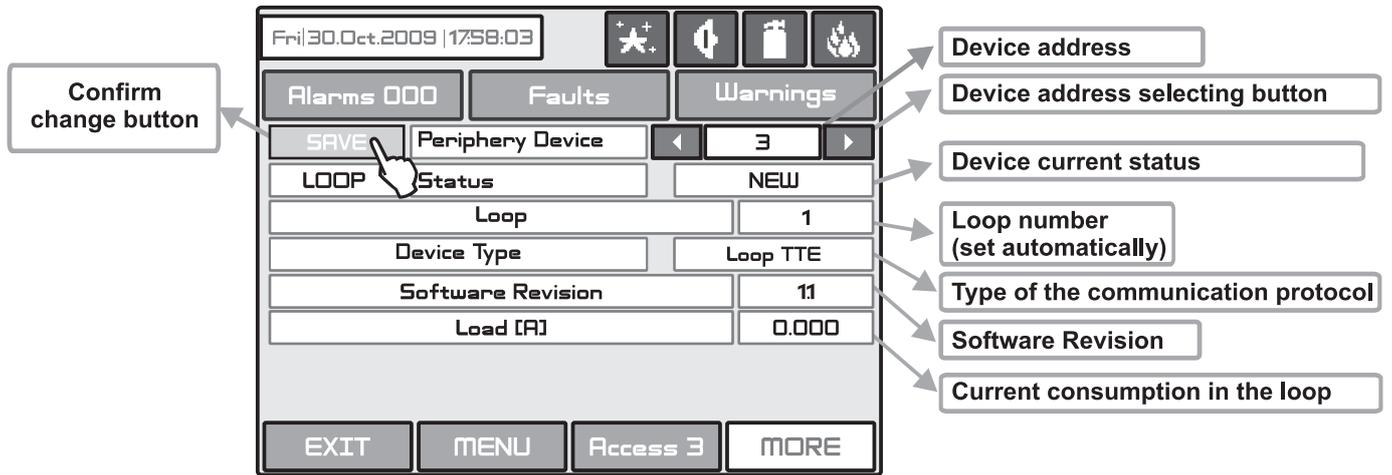

Fig. Screen 7 - Example for adding of new periphery device LOOP (IRIS TTE Loop controller)
- **LOOP** (Loop controller) - see Fig. Screen 7